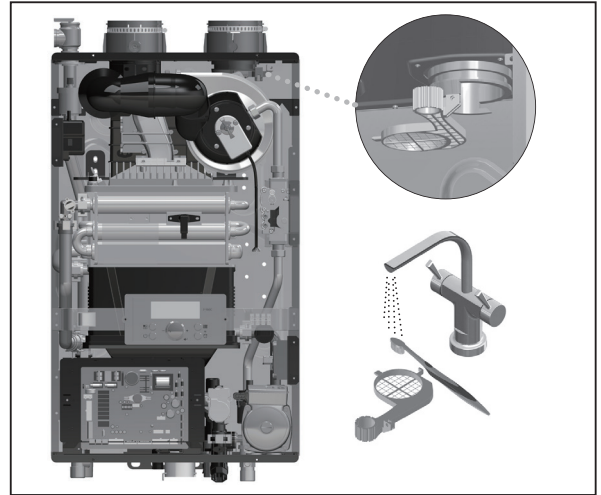

Figure 42 – Cleaning the Air Intake Filter
6. Remove the filter from the plastic assembly and clean it with a toothbrush and clean running water. See Figure 42